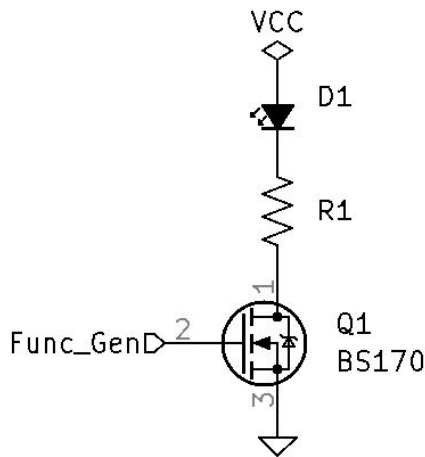

Figure 12.1: Switch Test Circuit 1
2. Design a circuit to test the switching ability of the BS170. See *Switch Test Circuit 1* Figure 12.1. Make $V_{CC} = 40V$.